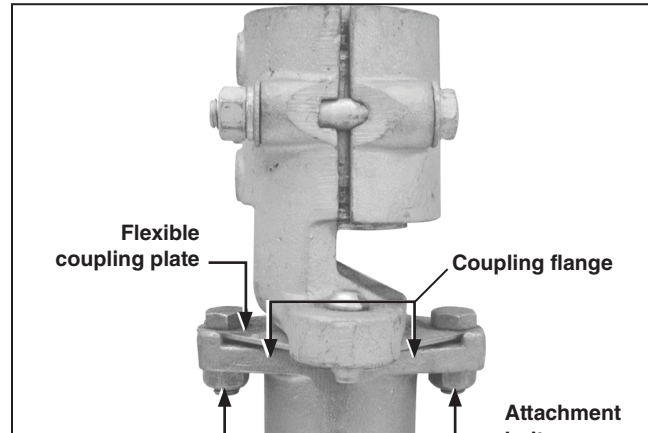

Figure 29. Attach the plate to the coupling flange.
- Install and tighten the self-locking nuts. Do not use lockwashers with the flexible coupling attachment bolts. See Figure 29.